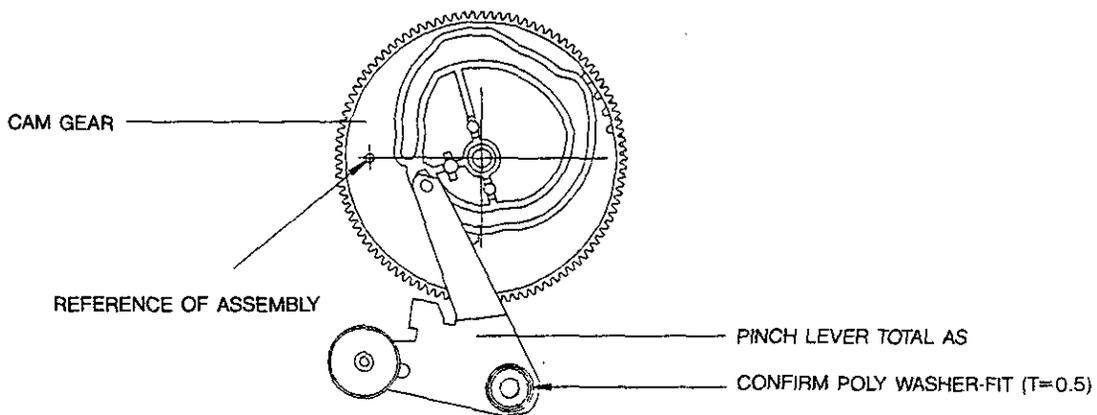

Fig. 4-4 Reference of assembly for the Cam Gear and Pinch Lever
1. Make sure that the upper part of Pinch Lever Ass'y is situated on the required upper cam locus in the Cam Gear (refer to Fig. 4-4).